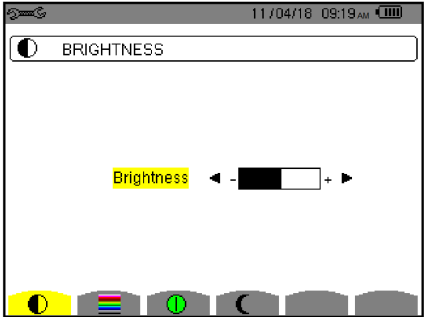

Figure 4-3
To open Display mode, select the  Display option in the Configuration screen and press ↵. This opens the Brightness screen (Figure 4-3). The options at the bottom of the screen allow you to navigate to other display screens.
1. In the Brightness screen (Figure 4-3), press the  function button. This displays the Colors menu.